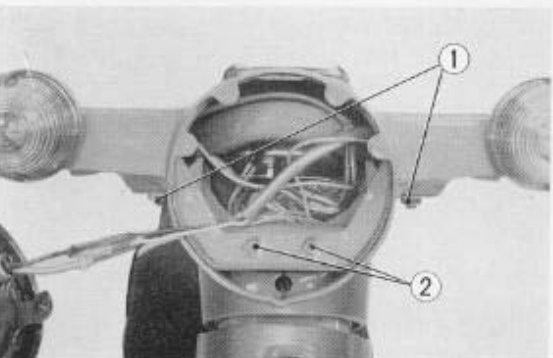

Fig. 4.13 Removing handle setting bolts
5. Unscrew the two top bridge setting bolts ② from within the headlight case and remove the two 8mm handle setting nuts ①. (C 90) (Fig. 4.13) and lift off the handle together with the cables and leads.